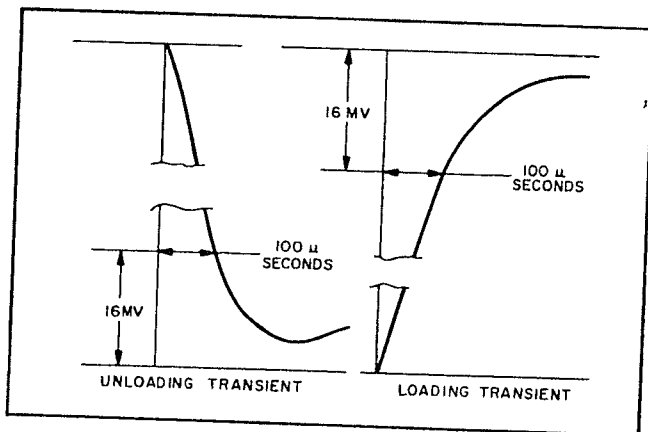

Figure 5-8. Transient Recovery Time Waveforms
j. Starting from the major graticule division representative of time zero, count to the right 100 µsec and vertically 16mV. Recovery should be within these tolerances as illustrated in Figure 5-8.